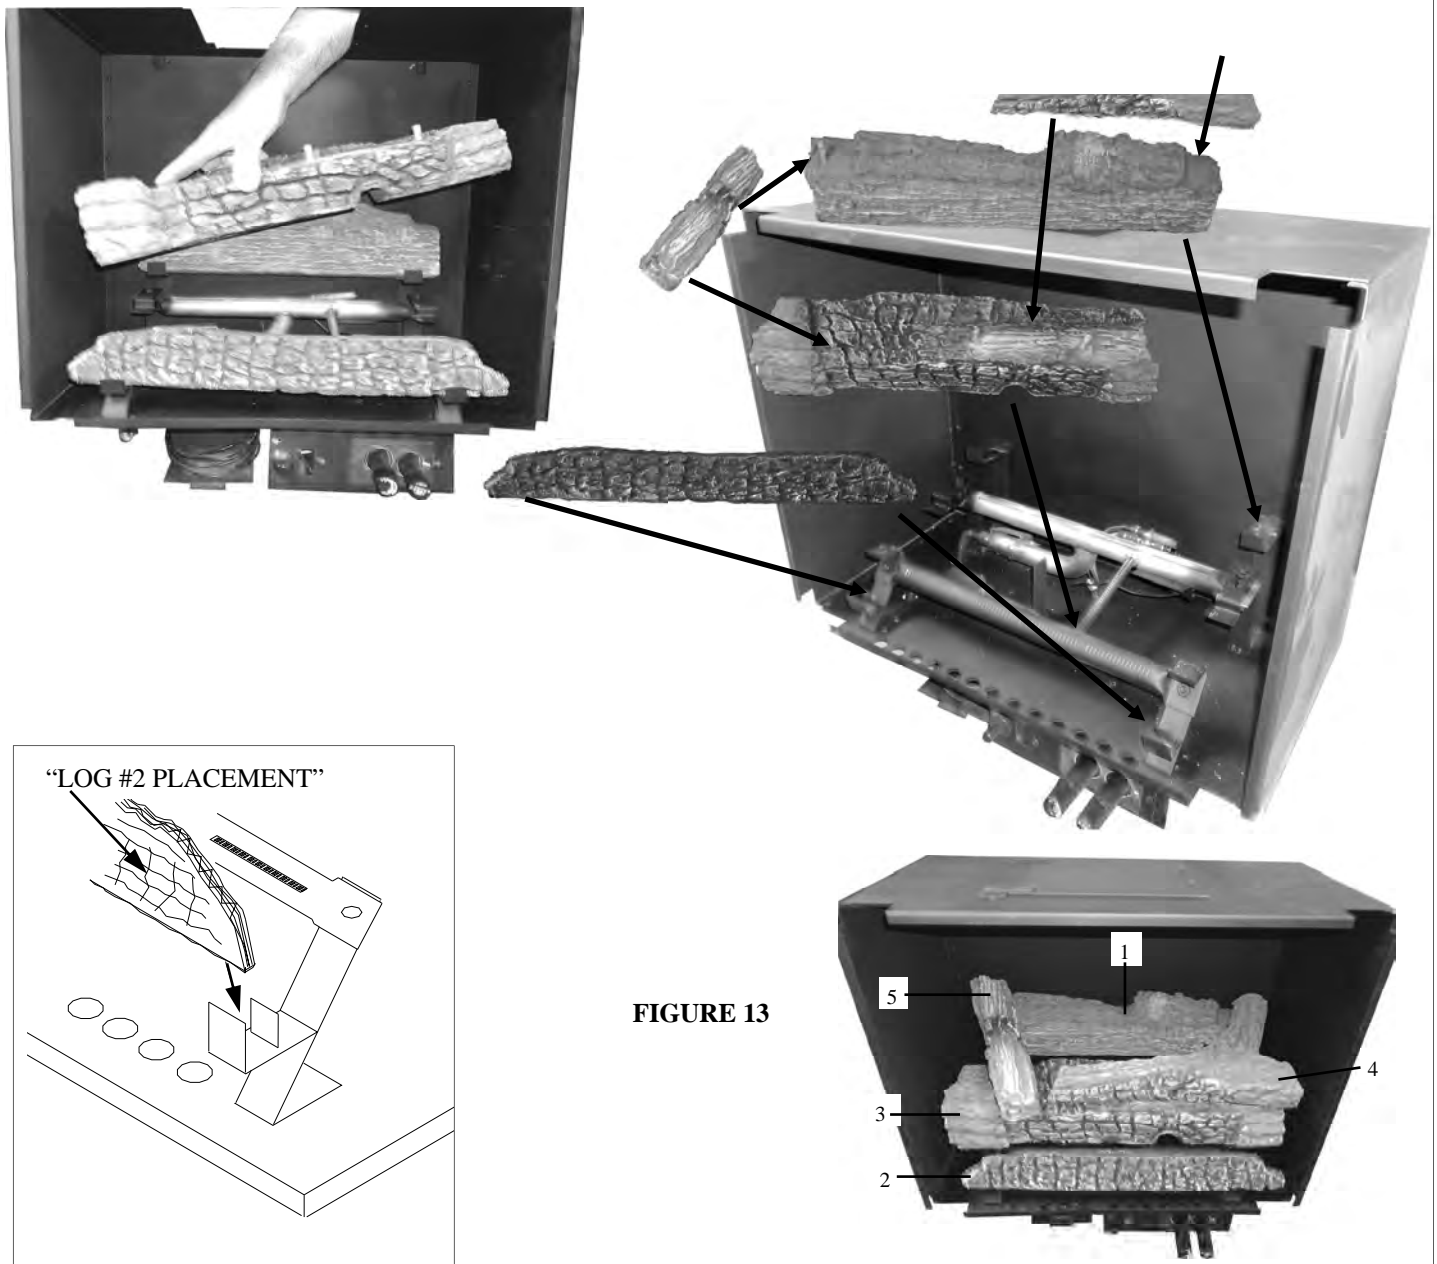

FIGURE 13
2. Carefully insert logs through opening in top of unit as described on (Page 13, figure 13).
4. Place access door on top of unit and secure with the two (4) phillips screws.
**WARNING: POSITIONING LOGS IS VERY CRITICAL (SEE FIGURE 13).